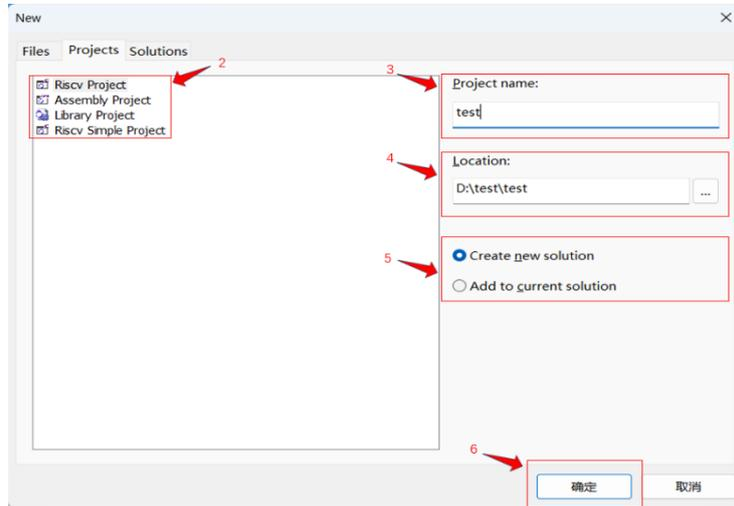

Figure 2-5
Step 2: Select the project type, including Riscv Project, Library Project, Assembly Project and Riscv Simple Project, as shown in Figure 2-5.